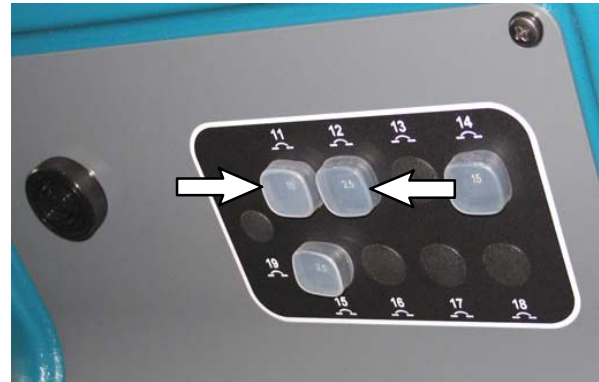
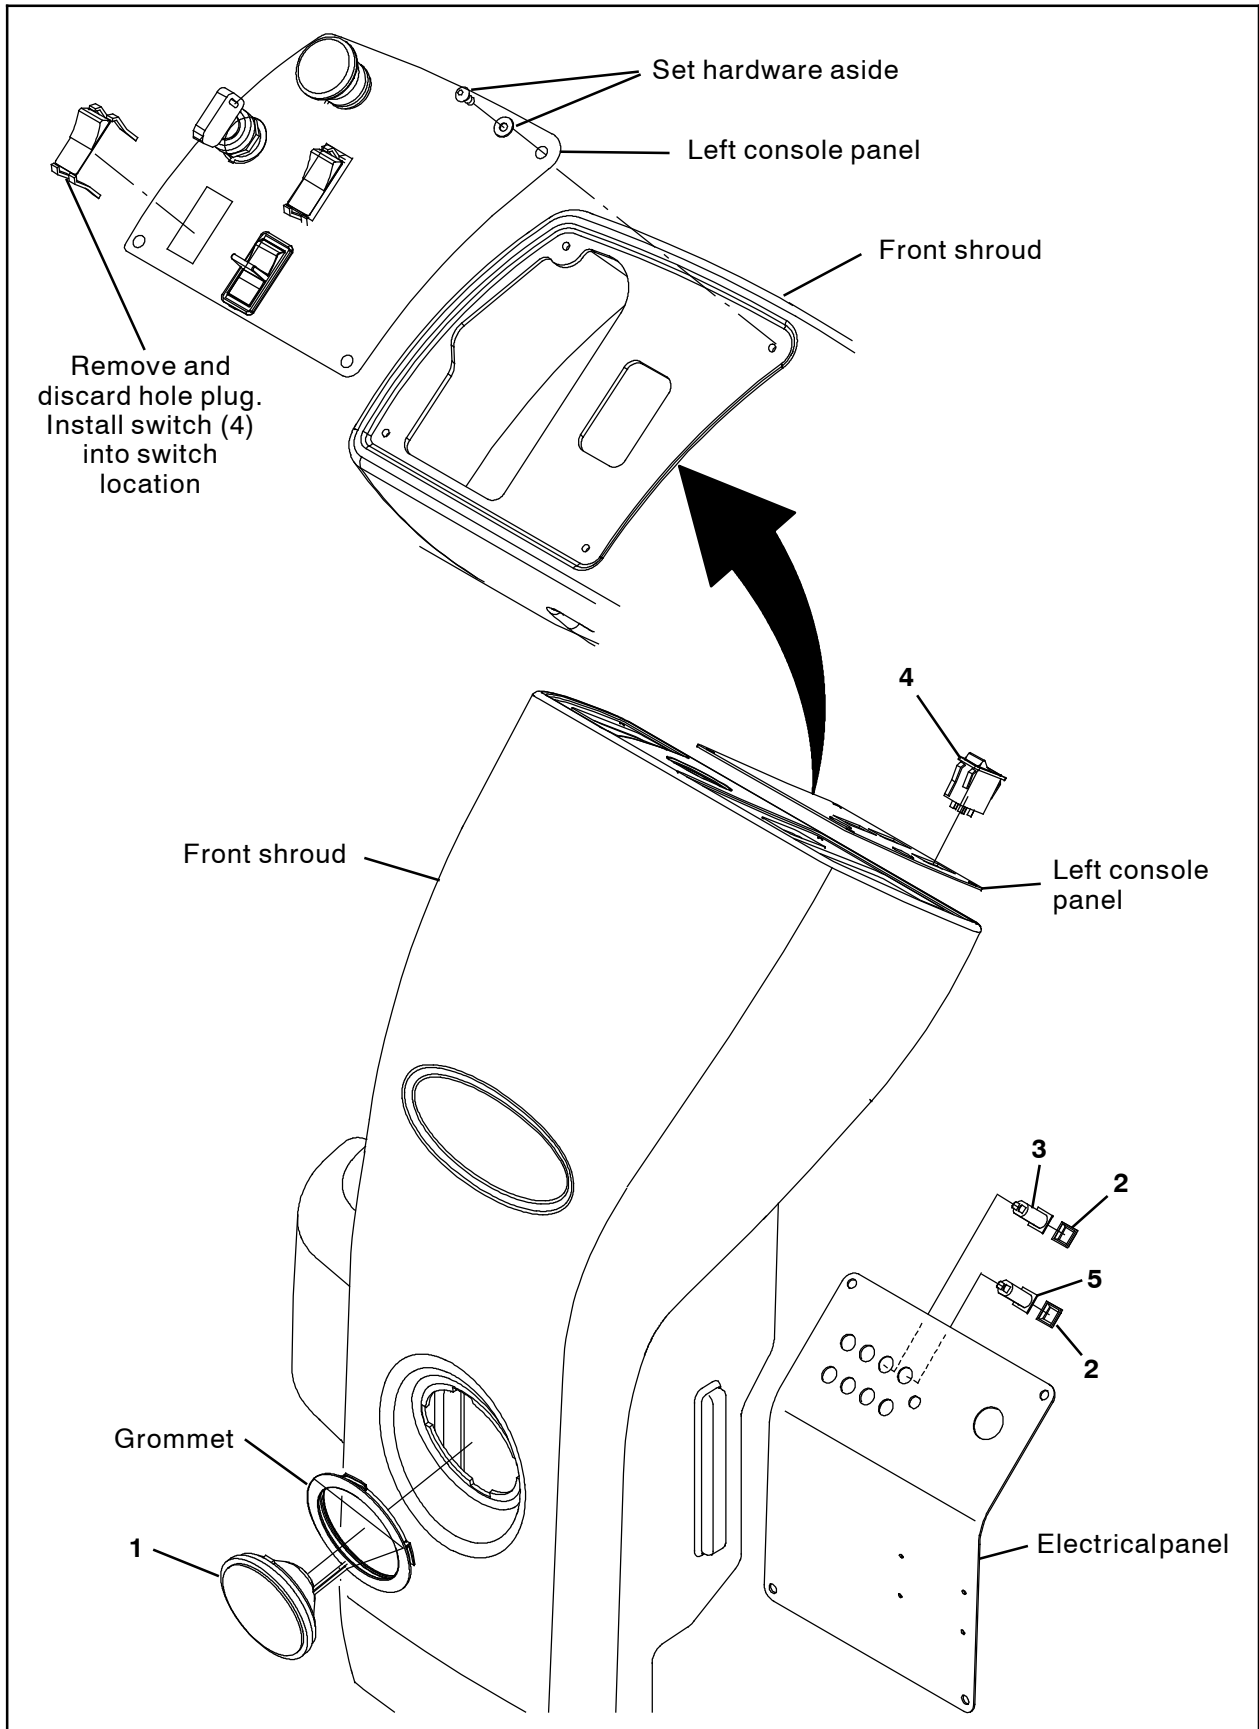
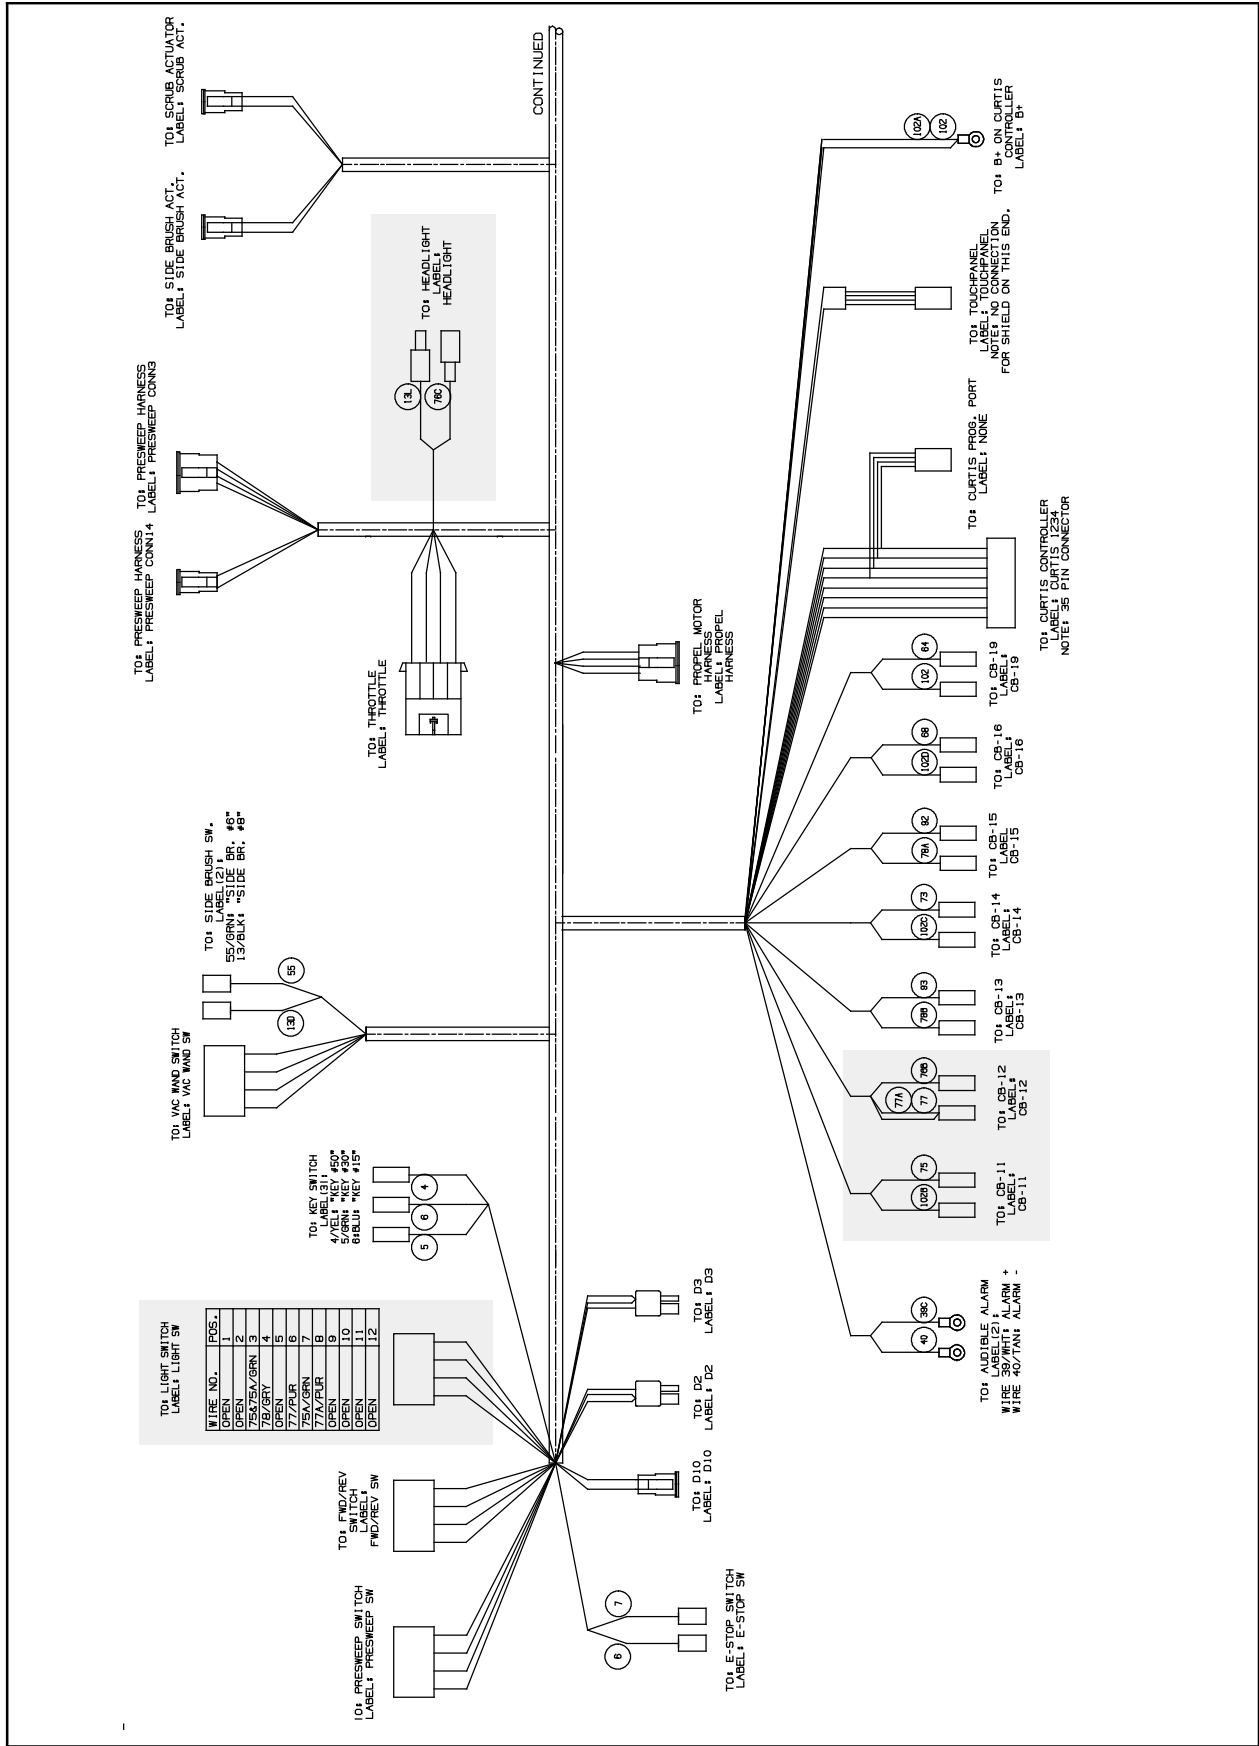
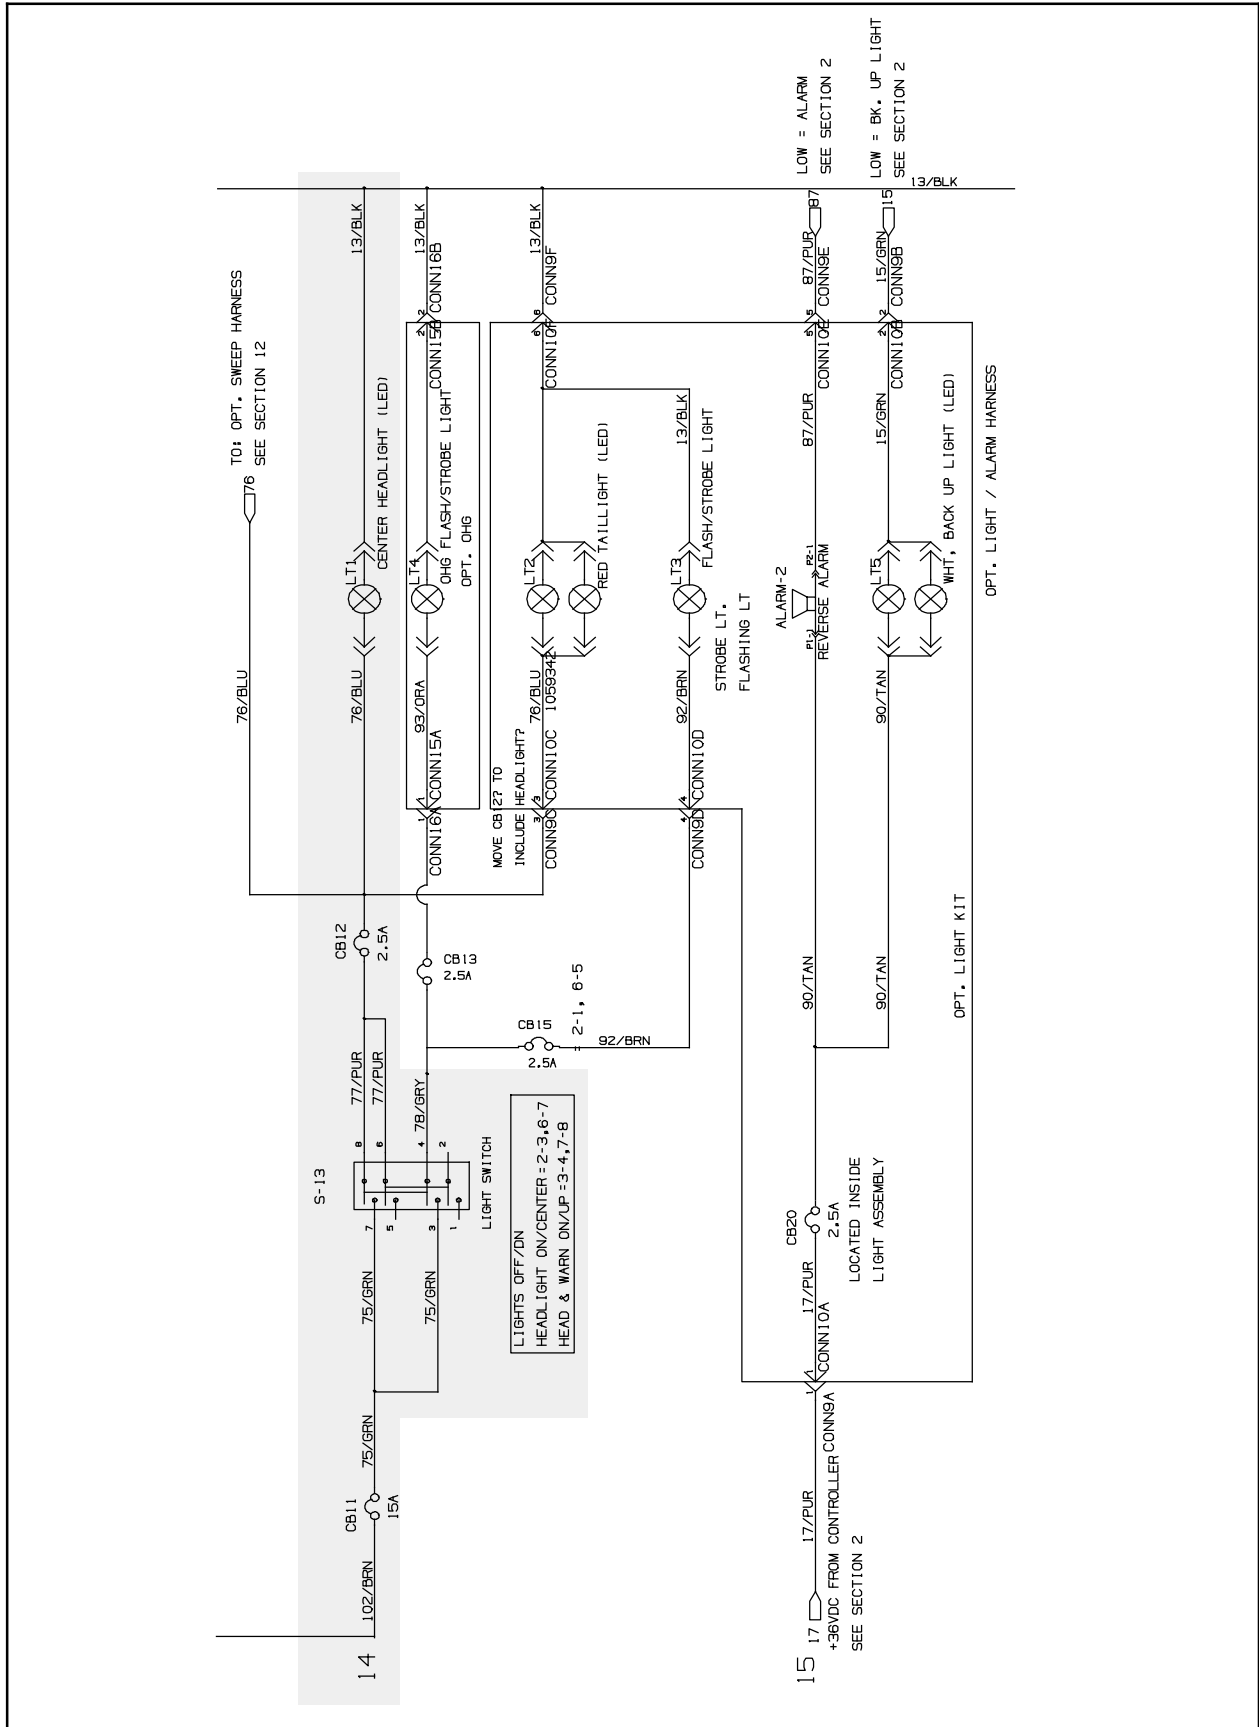

FIG. 2
FIG. 3
FIG. 4
FIG. 5
2. Install the grommet removed from the front shroud in the previous step onto the headlight. (Fig. 3)
3. Pull the main wire harness headlight connector out through the hole in the front of the front shroud and connect the headlight connector to the headlight (1). (Fig. 3 / Fig. 4 / Fig. 5)
4. Install the headlight assembly (1) into the front shroud. (Fig. 3)
5. Remove the hardware holding the left console panel to the front shroud and set the hardware aside. (Fig. 3)
6. Carefully pull the left console panel from the front shroud. Take care to not break any wire connections when pulling the panel from the shroud. (Fig. 3)
7. Remove the hole plug from the left console panel and discard the plug. (Fig. 3)
8. Insert the switch (4) into the left console panel. (Fig. 3)
9. Connect the main wire harness to the switch (4). (Fig. 3 / Fig. 4 / Fig. 5)
10. Reinstall the left console panel onto the front shroud. (Fig. 3)
11. Remove the hardware holding the electrical panel to the front shroud. Set the hardware aside. (Fig. 3)
12. Carefully pull the electrical panel from the front shroud. Take care to not break any wire connections when pulling the panel from the shroud. (Fig. 3)
13. Insert the 2.5- Amp circuit breaker (3) into the electrical panel (CB12). (Fig. 2 / Fig. 3)
14. Insert the 15- Amp circuit breaker (5) into the electrical panel (CB11). (Fig. 2 / Fig. 3)
15. Install a circuit breaker boot (2) onto the 2.5- Amp circuit breaker (3) and 15- Amp circuit breaker (5). (Fig. 2 / Fig. 3)
16. Connect the main wire harness to the 2.5- Amp circuit breaker (3) and 15- Amp circuit breaker (5). (Fig. 3 / Fig. 4 / Fig. 5)
17. Reinstall the electrical panel onto the front shroud. (Fig. 3)